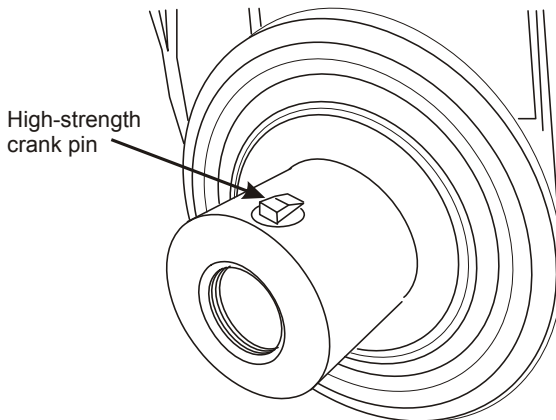

Figure 2.4
- ☐ Install the replacement crankshaft/harmonic balancer locating pin and tap it home using a brass drift and a small hammer. Ensure that the head of the pin is aligned with the crankshaft by twisting it into position with a crescent wrench (Figure 2.4).